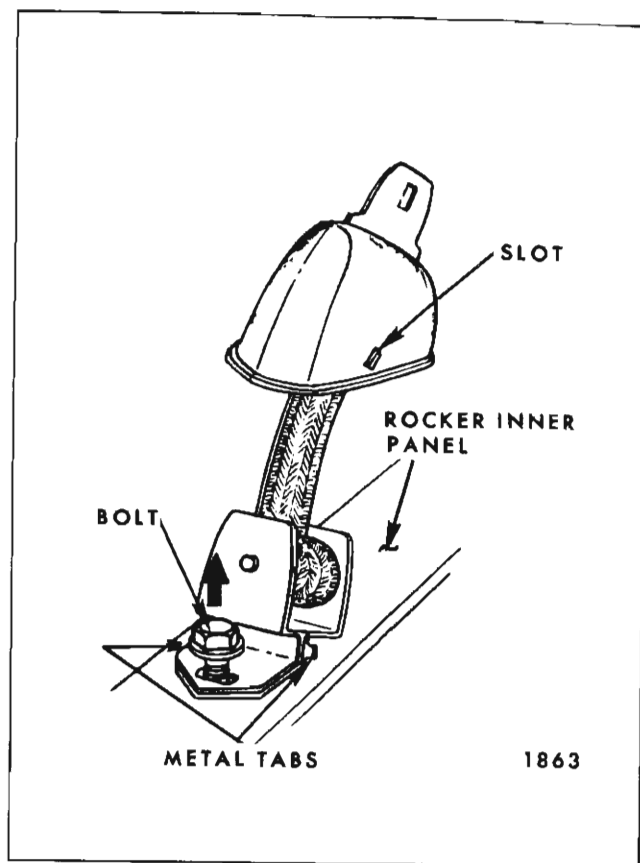

Fig. 1H48—Removal of Seat Belt Retractor -
from side of floor pan tunnel. (See Fig. 1H42).
2. From front of seat pull seat belt thru protector and from between front seat cushion and back. (See Fig. 1H43).